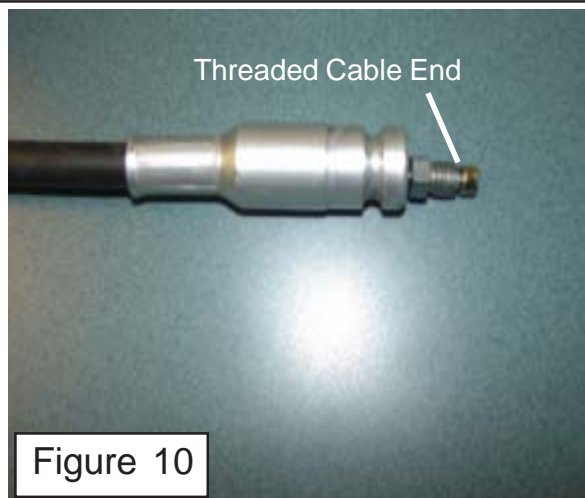

Figure 10
7. Threaded Cable End. While holding the Handle to expose the Plunger Rod, thread the Threaded Bead of the Cable into the end of the Plunger Rod and tighten securely. Release the Handle, allowing the Cable to pull into the Control Stick Assembly (See Figure 10).